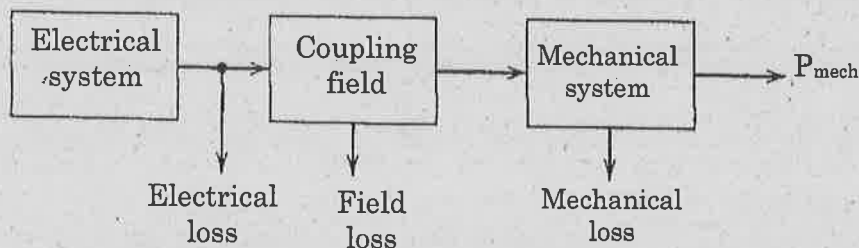

Figure 6. Electromechanical energy conversion system
6. Write the energy balance equation for the block diagram shown in figure. 6